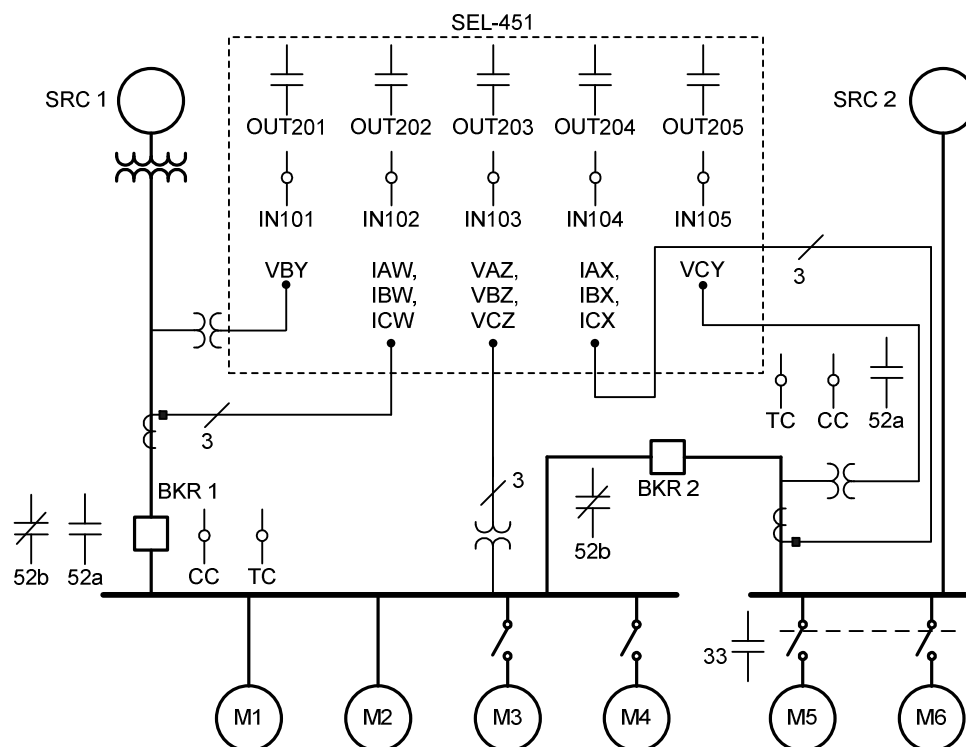

Figure 18 Application Example
Consider, for example, the single-line diagram in Figure 18. The motor bus containing motors M1 through M4 operates with its main feed coming from Breaker 1. The bus-tie breaker, BKR 2, is used in the transfer from the main source, Source 1 (SRC 1), to Source 2 (SRC 2) under certain conditions. Transfer from Source 2 to Source 1 is allowed under all conditions. If the transfer enters the residual transfer mode, two motors need to be disconnected from the bus (M3 and M4).
Figure 18 shows the simplified wiring. Each breaker provides a 52a (normally open breaker status) and a fast 52b (normally closed fast breaker status) to be used to implement a simultaneous fast transfer.
Because of the mechanical loads connected to M5 and M6, if either of these motors is connected to its bus, there cannot be a source transfer to Source 2. The contact (33) logically denotes that at least one motor is connected to the bus, as shown in Figure 18.